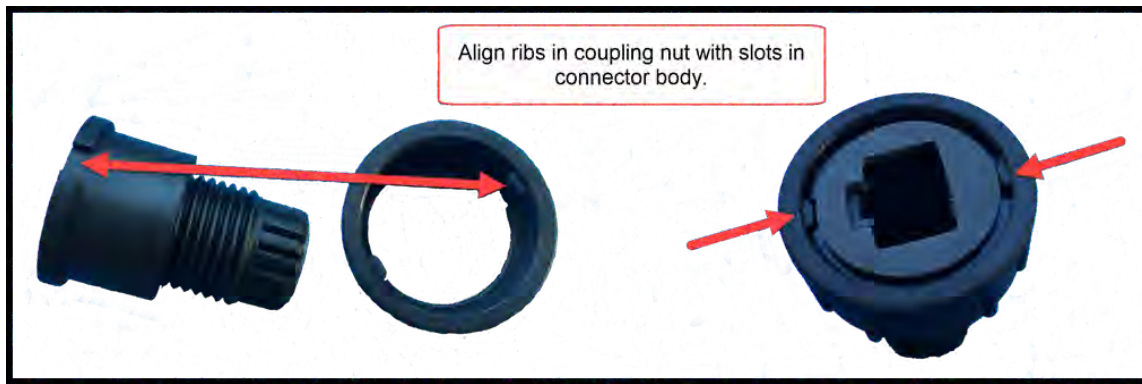

Figure 9: Align the ribs in the coupling nut
5. Feed the Cat6 cable through the strain relief, round rubber seal, and connector body in the order shown in Figure 9.